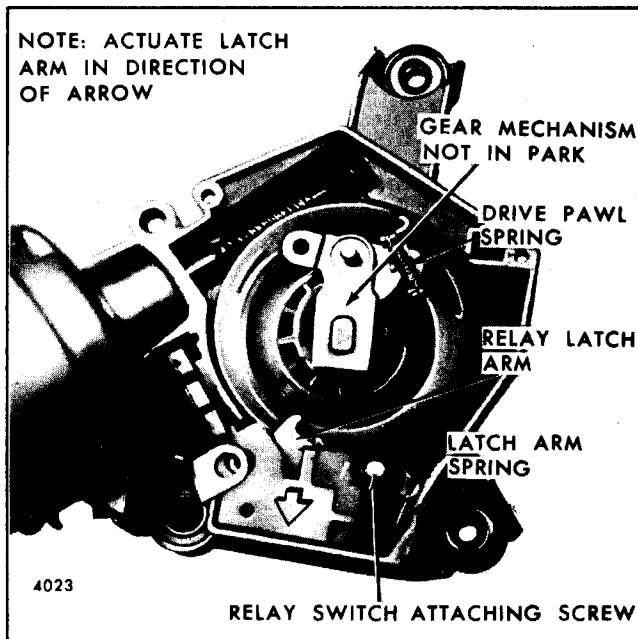

Fig. 2-33-Latch Mechanism
1. Observe if relay latch arm spring is connected properly (Fig. 2-33).
3. If items in 1 and 2 check out, connect power source to wiper and connect jumper wire from terminal No. 3 to wiper housing. DO NOT make any connections from terminal No. 1. Manually actuate latch arm in direction of arrow (Fig. 2-33) and observe if it remains in energized position (inside plastic switch housing out of path of gear drive pawl). If it remains in energized position, check for grounded red lead from coil to terminal
1. Check that drive pawl and relay latch arm springs are properly connected (Fig. 2-33).
(drive pawl away from latch arm Fig. 2-33, proceed to Step 3).